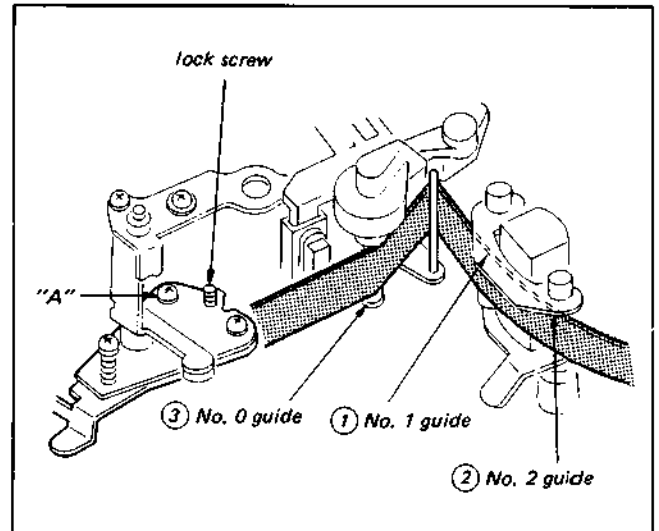

Fig. 3-12. Replacement and adjustment (2) of tension regulator arm plate assembly
3. Play back the 1 MHz segment of the alignment tape (KR5-1J). Loosen the lock screw and adjust screw "A" in Fig. 3-12 so that the RF waveform becomes that (see the waveform in the tape path adjustment, Section 3-19-1.) when the TRACKING knob is turned to the right and left from its center detent position and so that the tape is not apart from the flanges of guides (1), (2) and (3) shown in Fig. 3-12 and there is not a large tape curl at the guides.